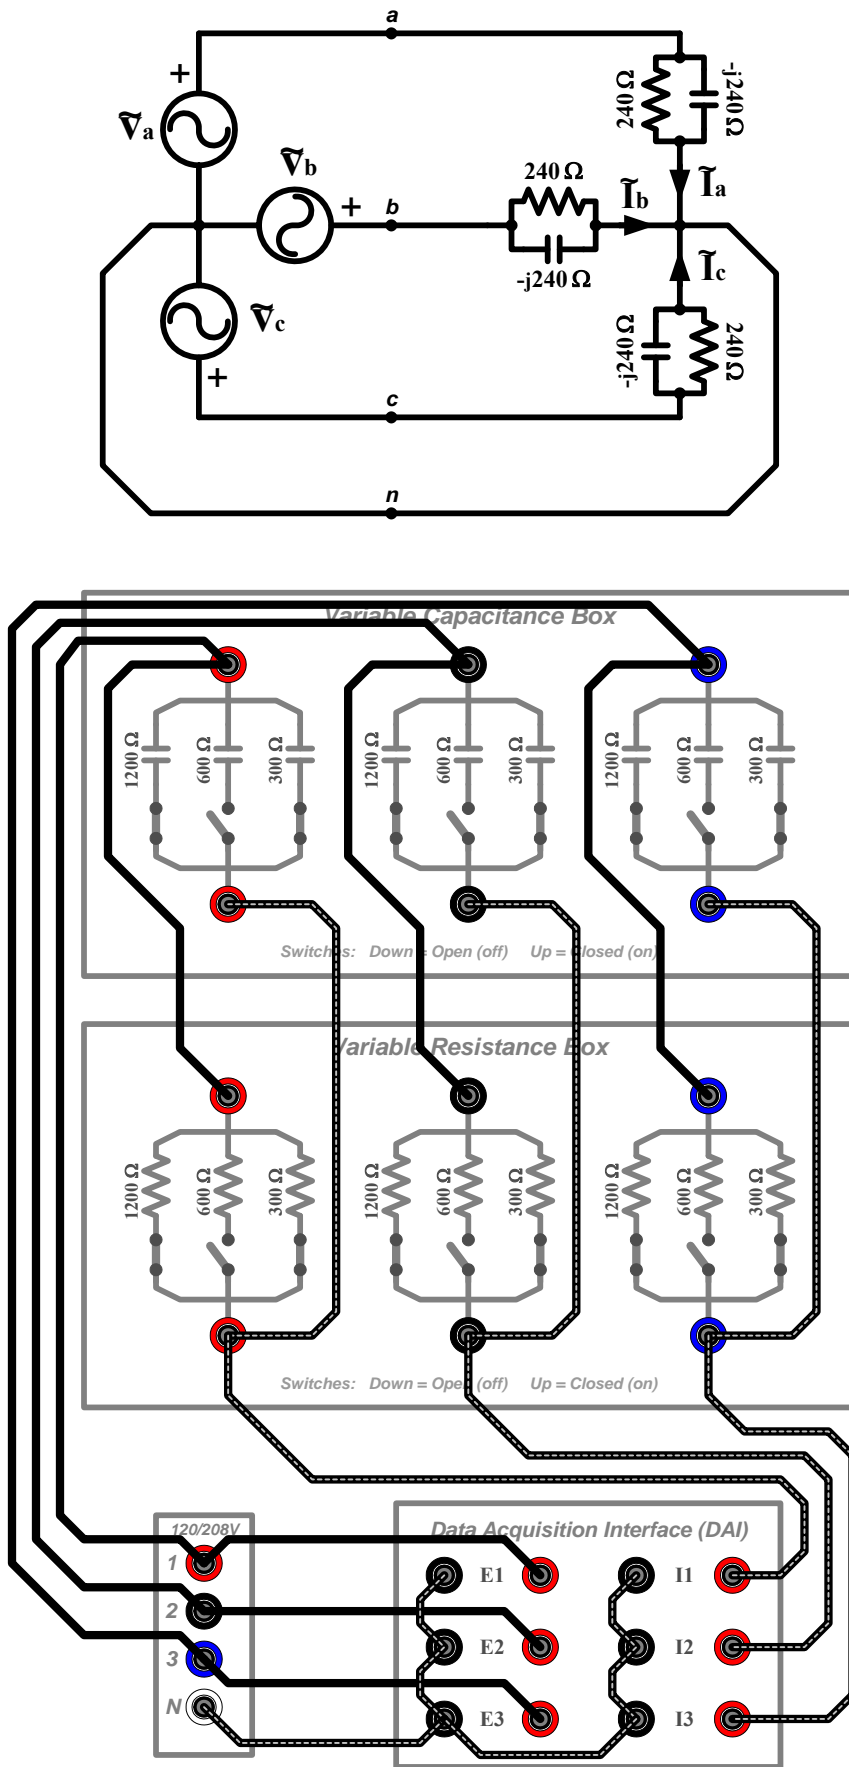

Figure 10.2 – Balanced 3 $\Phi$  Circuit with Y-connected Load
9. Disconnect the meters from the 3 $\Phi$  supply and construct the circuit shown in **Figure 10.2**.